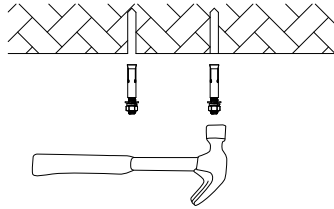

Figure4
2. Fix anchor into the ceiling(Figure4).